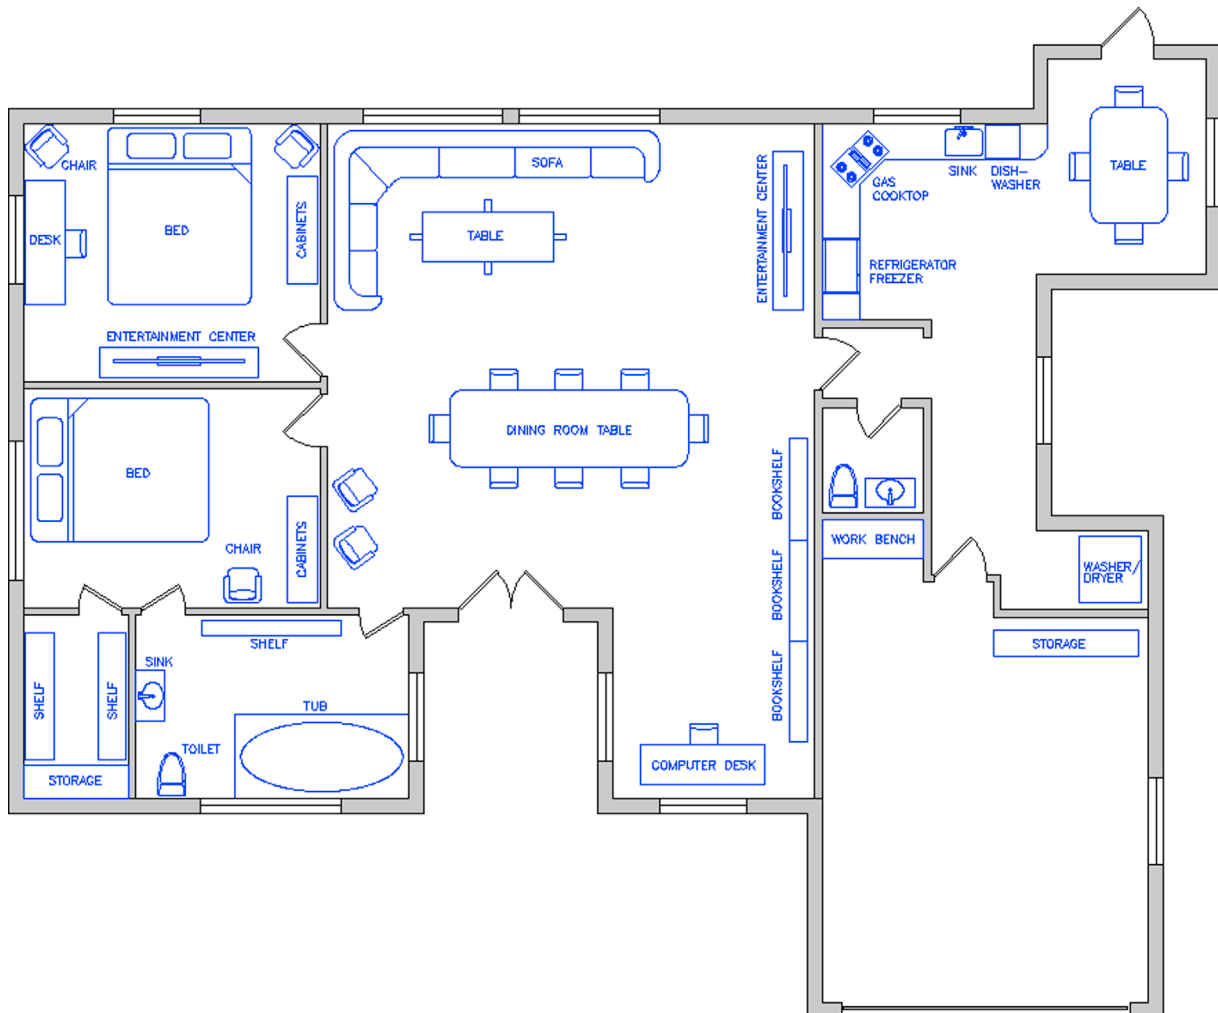

FIGURE 13.24 Furniture and appliances in floor plan.
Step 2. Dimensions for the furniture and appliances are not specifically given, but draw in reasonable-size designs, as seen in the layout. Feel free to add more than is shown. The full plan is in Fig. 13.24. Your drawing features the colors listed in Step 1.